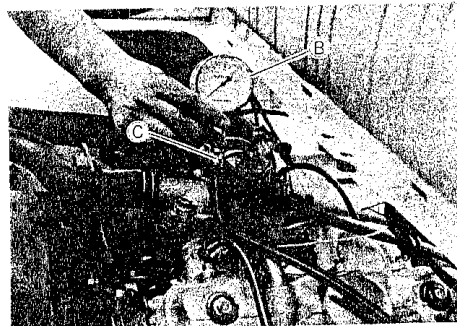

Fig. 3-153
- 2) Install the vacuum gauge (B) on the manifold as shown in Fig. 3-153. Install an engine tachometer.